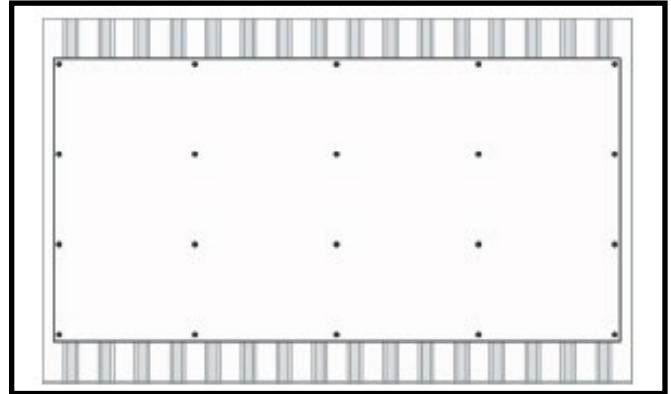

FIGURE 4
3.1.4.2 Fasteners: Proprietary ResinDek® screws shall be used to attach the panels to the metal decking. The ResinDek® screw is a No.10-gauge screw, 2 inches (51 mm) long, with a number 2 square drive head. The fasteners have self-piercing points, a zinc coating, and are available in gray or beige colors. A minimum of 20 fasteners (24 for 10-foot panels) shall be equally spaced throughout each 4-foot x 8-foot panel as shown in Figure 4 of this report. Edge fasteners shall be located a minimum of one inch (25.4 mm) from the panel edges.